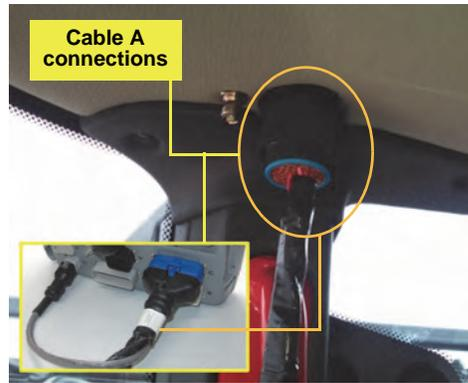

Figure 1: ISO cable connections
NOTE: Figures 1 and 2a show a prototype ISO interface cable A.
- a. Remove the existing MAX interface cable (if installed - the 'blue cable') and install interface cable **A** between the MAX (main and power connections, see inset) and the ISO roof connector near the front right cab pillar (Figure 1).